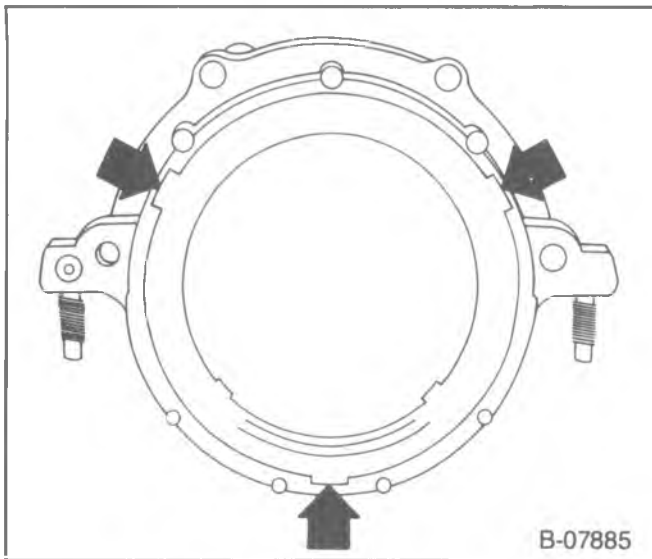

Figure 21—Seal Removal Notches
↔ Remove or Disconnect (Figure 21)
3. Rear crankshaft oil seal. Insert a screwdriver into the notches provided in the seal retainer and pry the seal out (figure 21). Take care not to damage the crankshaft sealing surface.
↔ Remove or Disconnect (Figures 21 and 23)
4. Screws (80) and nuts (81).
5. Seal retainer (82).
6. Gasket (84).
7. Rear crankshaft oil seal. Insert a screwdriver into the notches provided in the seal retainer and pry the seal out (figure 21).
→→ Install or Connect (Figures 21 and 23)